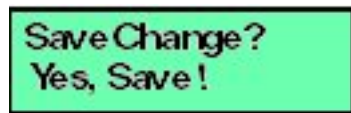

Figure 3.14. LCD Panel (Save Change)
7. Use the arrow keys as described in step 2 to enter the IP address for the DNS server, then press **ENTER**. The following message displays (Figure 3-14):